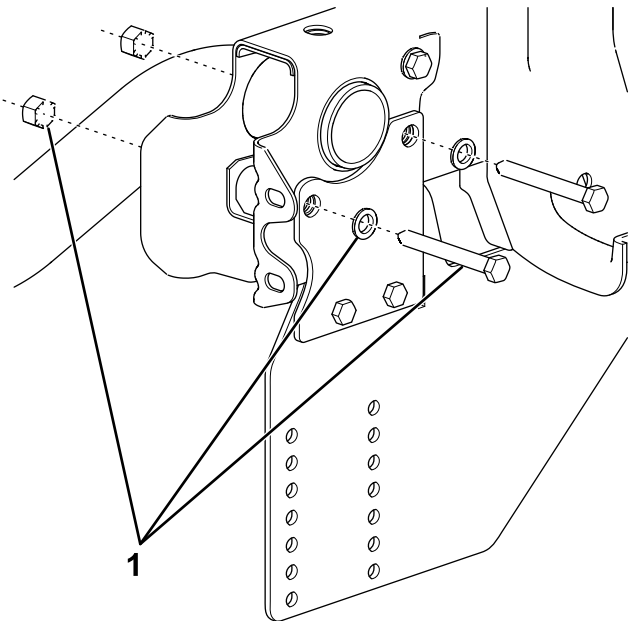

Figure 5
6. Secure the top of the sidestraps with the previously removed fasteners (Figure 5).